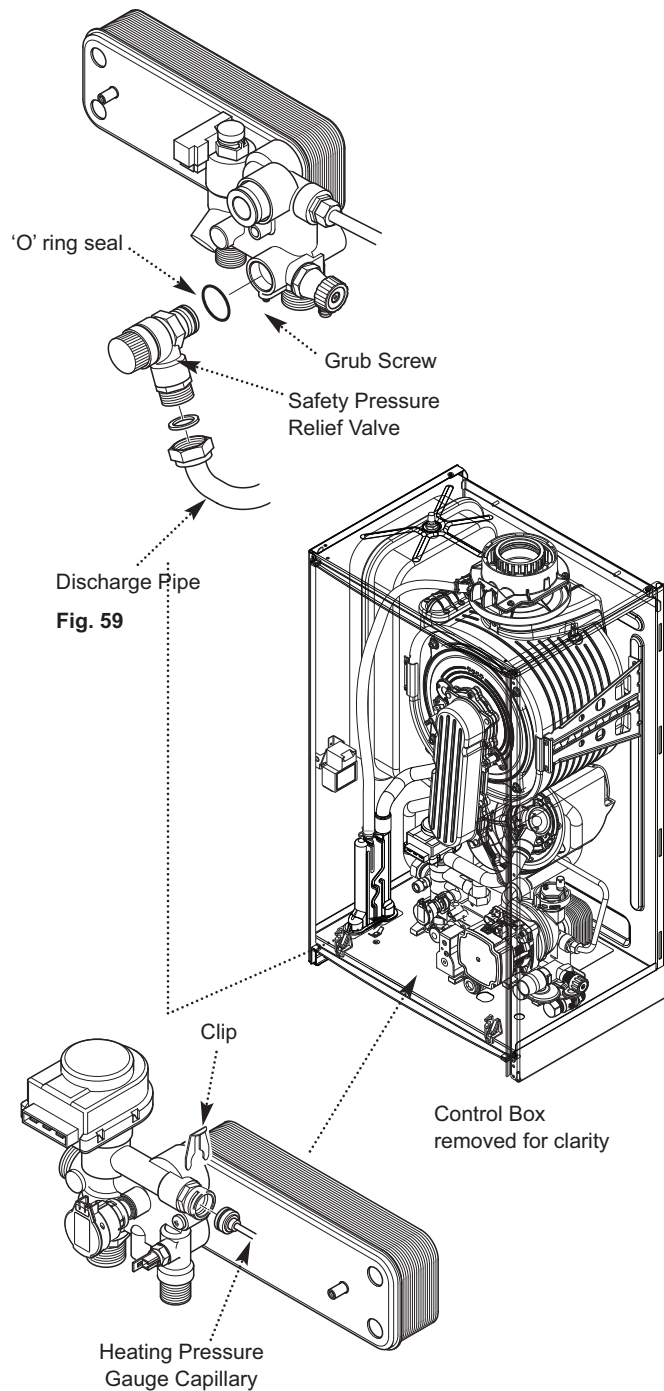

Fig. 60
10.3.15 Heating Pressure Gauge (Figs. 60 & 61)